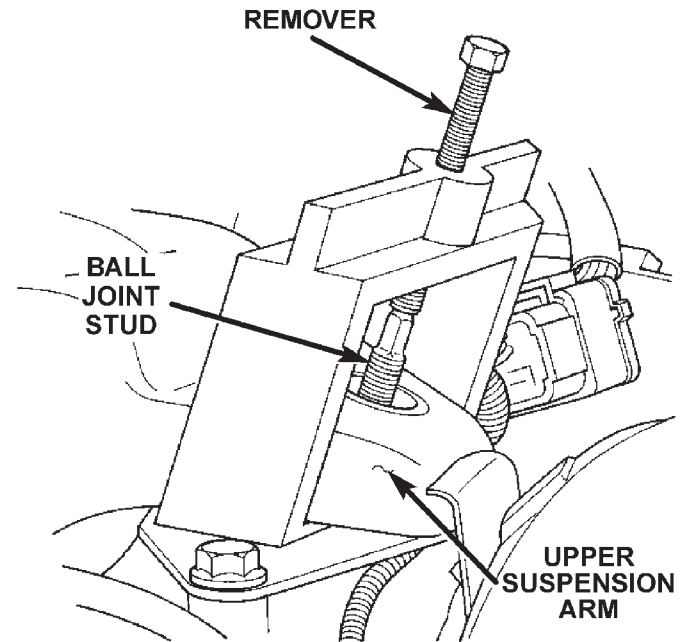

Fig. 12 Separate Ball Joint
(4) Separate ball joint from the arm with Remover 8278 (Fig. 12).